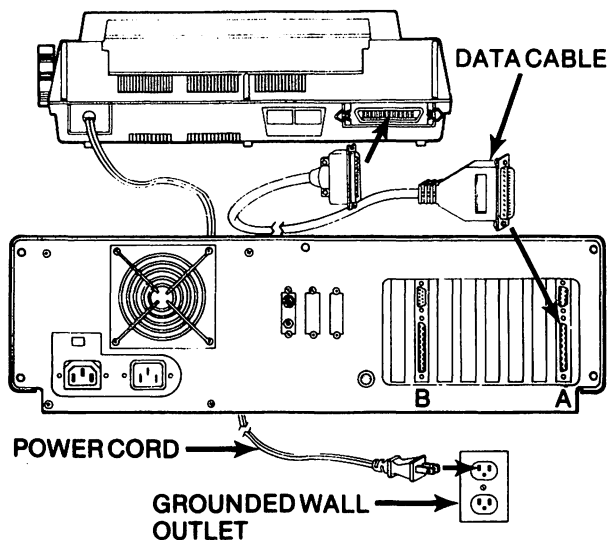

Figure 2-4
1. Connect the printer data cable to the parallel port on the video adapter board (labeled A in Figure 2-4). If you have an Enhanced Graphics Adapter (EGA) board, which does not have a parallel port, you need an I/O board, which has both a parallel and a serial port.
2. If you have a second parallel printer, connect its data cable to the parallel port on the I/O board (labeled B in Figure 2-4).